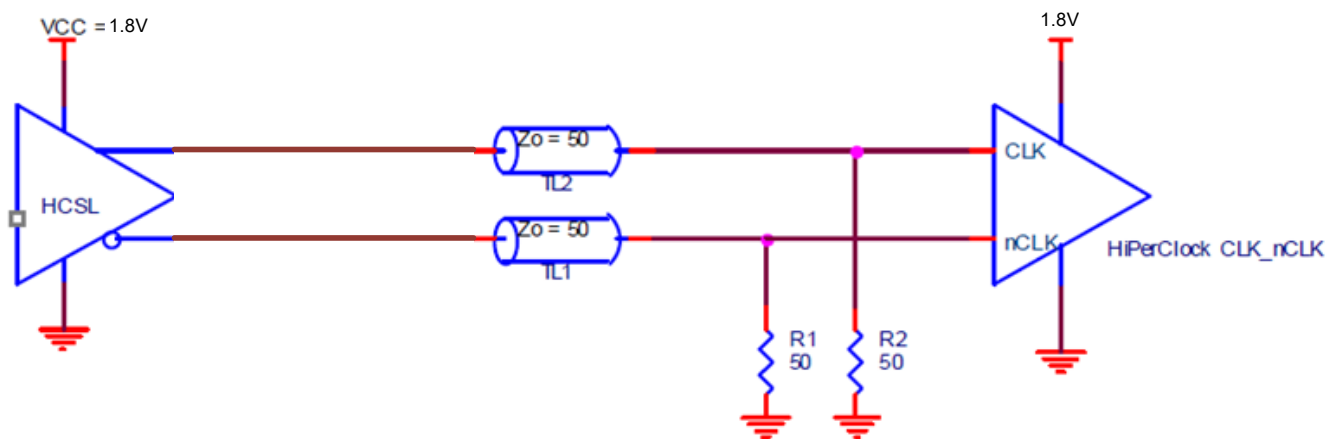

Figure 3. HCSL External Termination—Common
- Figure 3. HCSL External Termination–Common3
Figure 3 shows a common standard HCSL external termination scheme. It uses 50Ω pull-down resistors.